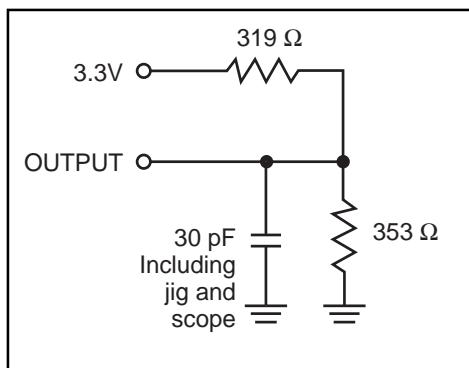

Figure 1.
- Test conditions assume signal transition times of 3 ns or less, timing reference levels of 1.5V, input pulse levels of 0 to 3.0V and output loading specified in Figure 1.
Output Load	See Figures 1 and 2